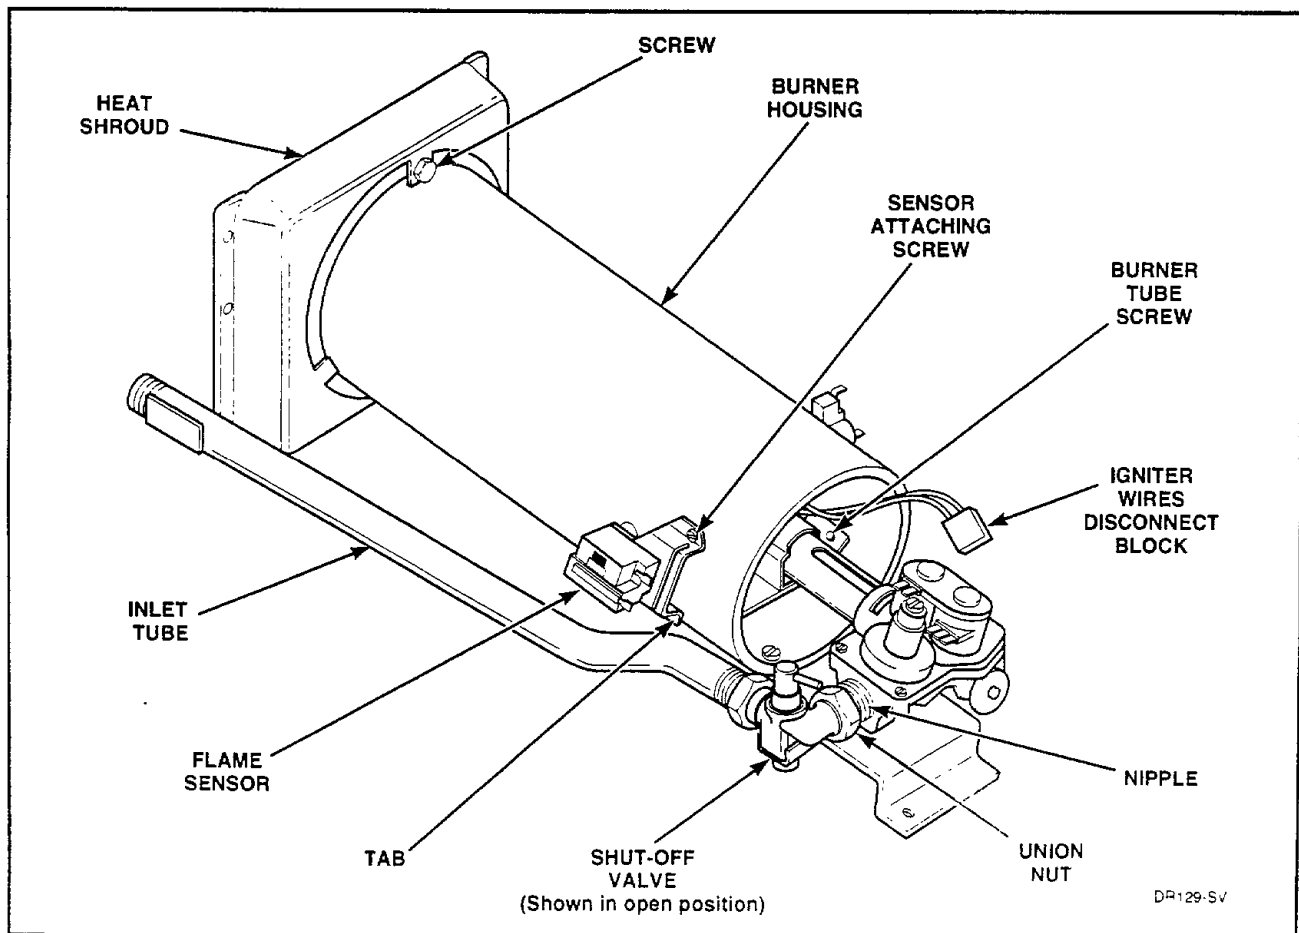
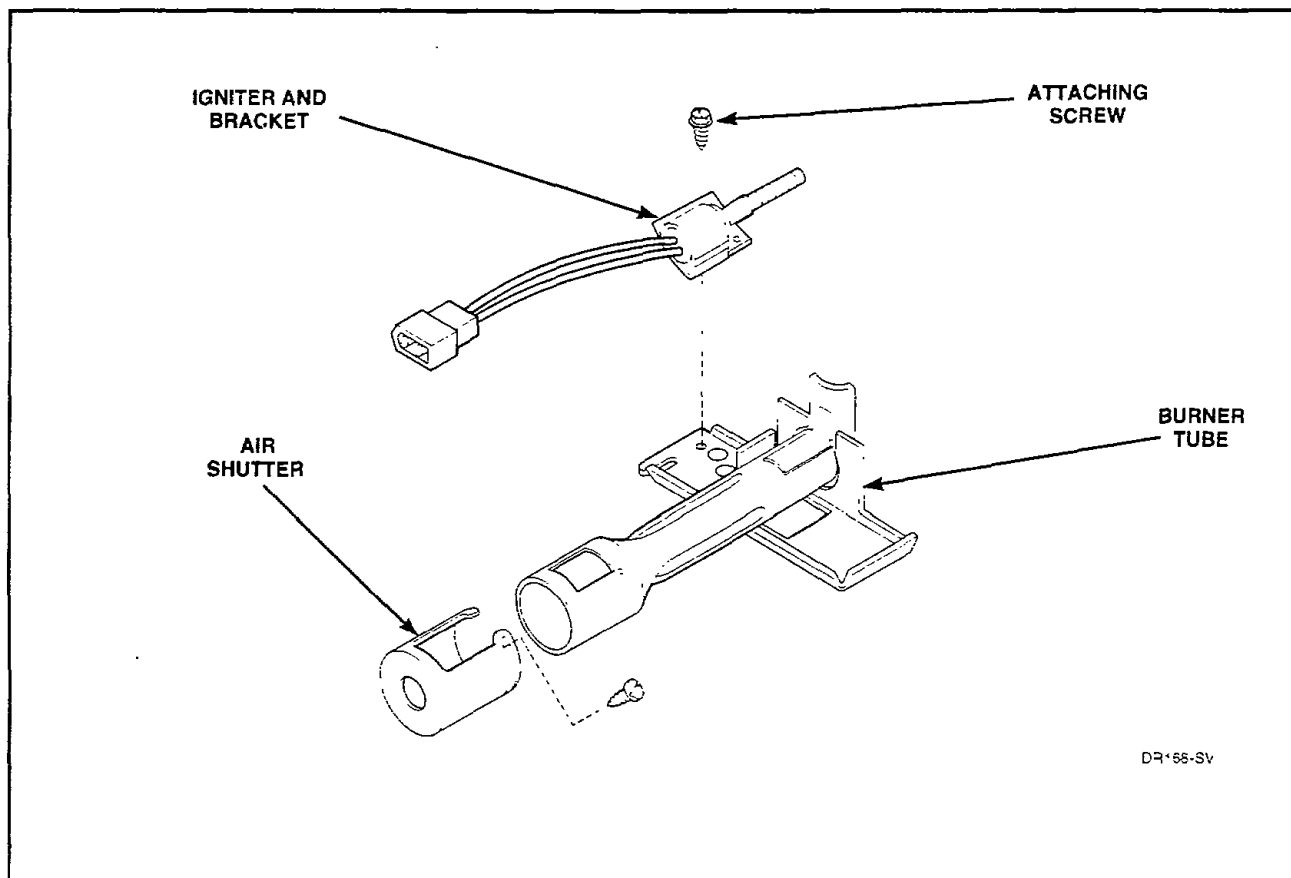

Figure 26
Figure 27
- (4) Disconnect gas shut-off valve from gas valve at the union nut, *Figure 26*.
- (5) Remove two screws holding valve and mounting bracket to base.
- (6) Slide assembly forward, then lift gas valve and mounting bracket from base, *Figure 26*.
- (1) Remove one screw from right side of burner housing holding burner tube in place, *Figure 26*.
- (2) Gently move burner tube toward rear of dryer to disengage tab from slot on left side of burner housing, *Figure 26*.
- (3) Carefully rotate burner tube and igniter counterclockwise so tab is at 8 o'clock position.
- (4) Move air shutter end of burner tube slightly to right and CAREFULLY remove burner tube and igniter assembly out through front of dryer.
- (5) Remove screw holding igniter and bracket to burner tube and remove igniter and bracket, *Figure 27*.
- (2) Gently lower the access panel to disengage guide lugs from bottom edge of front panel.
- (3) Remove wires from sensor terminals, *Figure 26*.
- (4) Remove screw holding sensor to burner housing, *Figure 26*.
- Gently move burner tube toward rear of dryer to disengage tab, *Figure 26*, from slot on left side of burner housing.
- Remove screw holding burner housing to heat shroud, *Figure 26*.